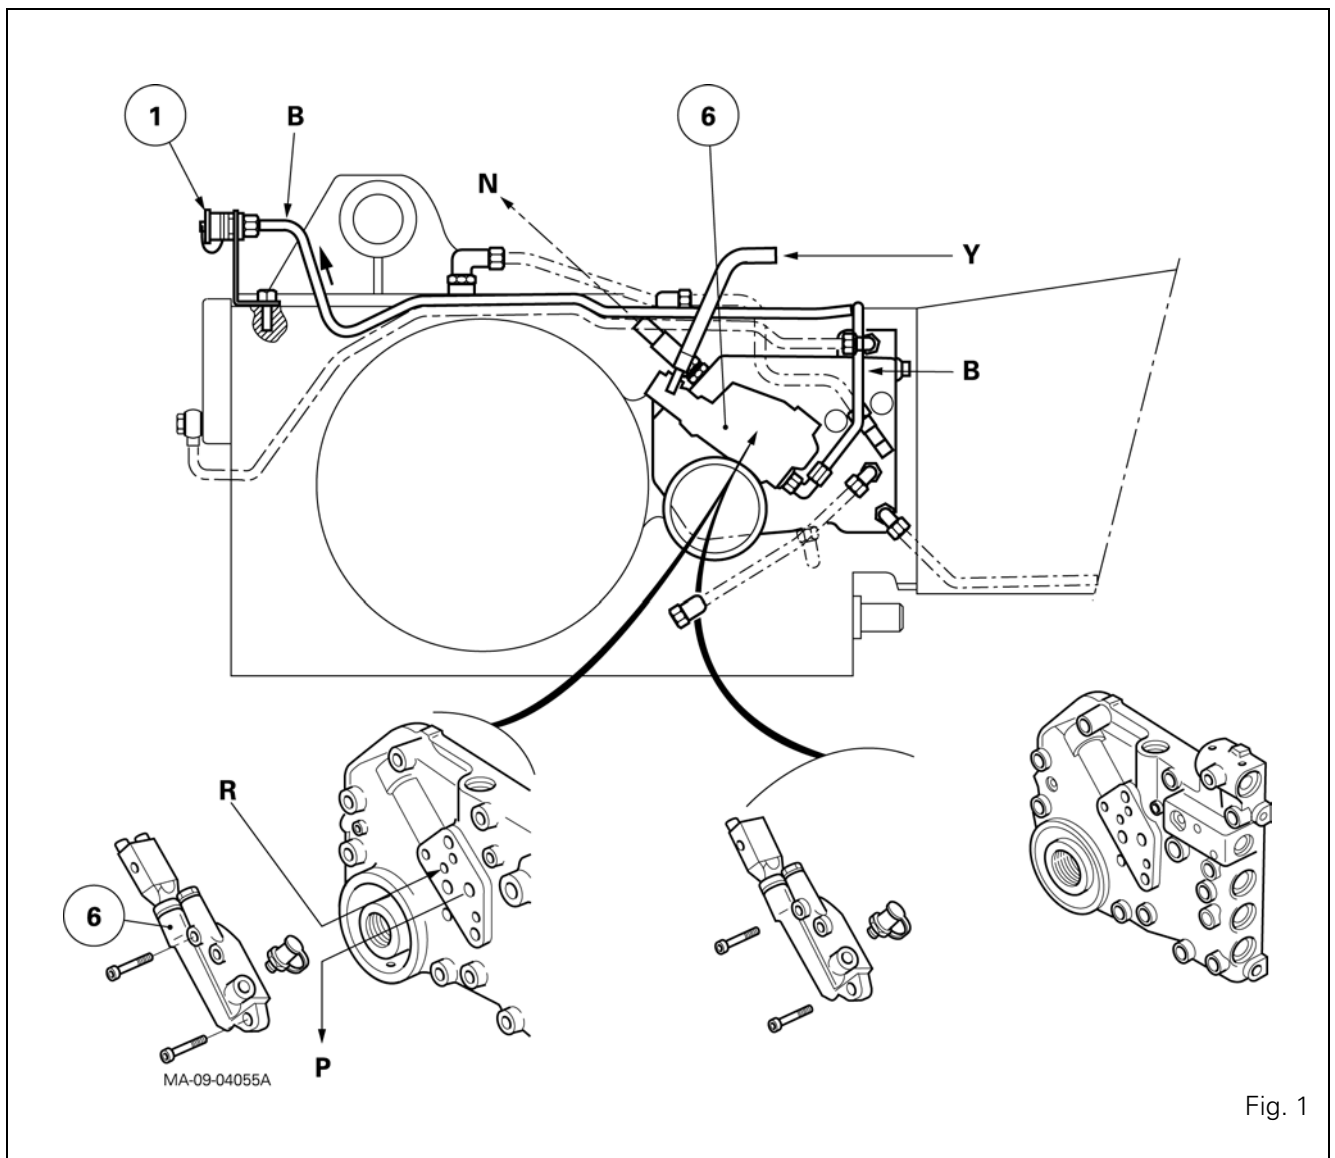

Fig. 1
- a valve unit (6) (Fig. 1) (spool valve) fitted on the right-hand side hydraulic cover,
- a pipe linking the spool valve to a connector (1) (Fig. 1) located at the rear of the tractor,
Identification of pipes, hoses and ports (Fig. 1)